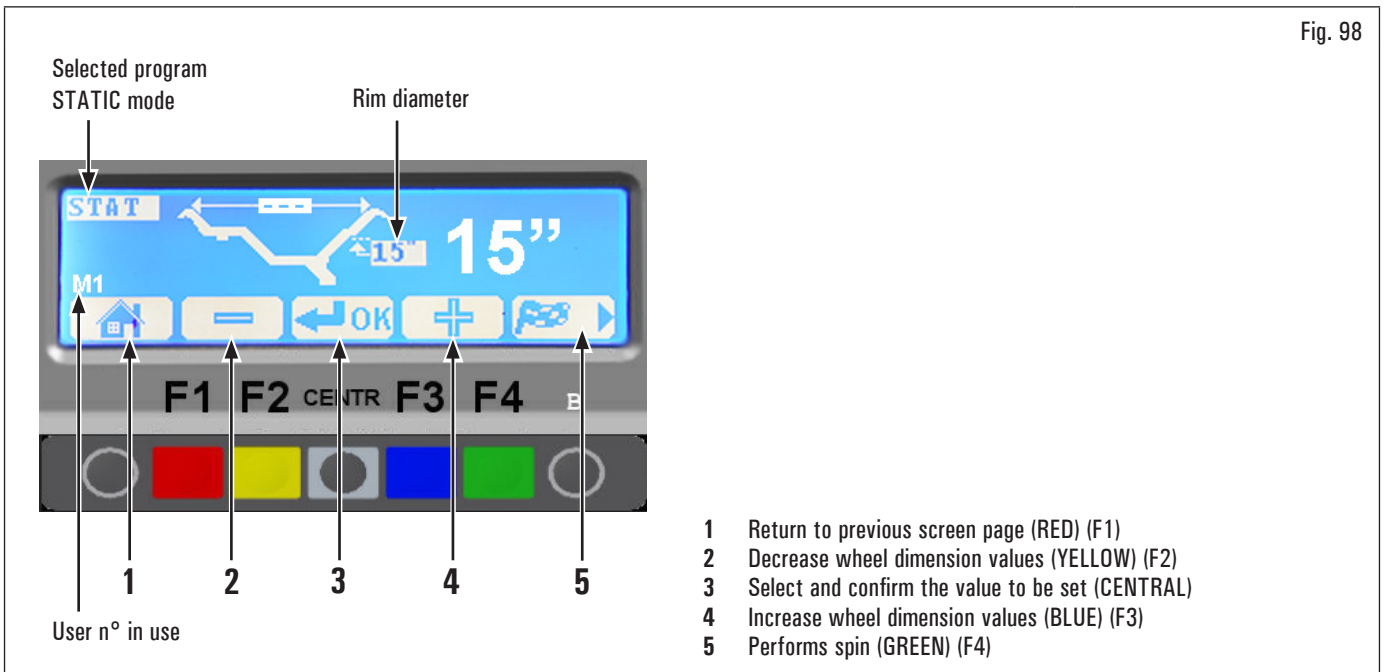

Fig. 98
Press "F3 key" , the program goes directly from the initial page (Fig. 52) to the screen page illustrated below (STATIC mode Fig. 98).
Press the "CENTRAL" key  to select the value to set (only diameter) (Fig. 98 ref. 3).
Press the "CENTRAL" key  and execute the spin by pressing "F4" key  (Fig. 98 ref. 5).